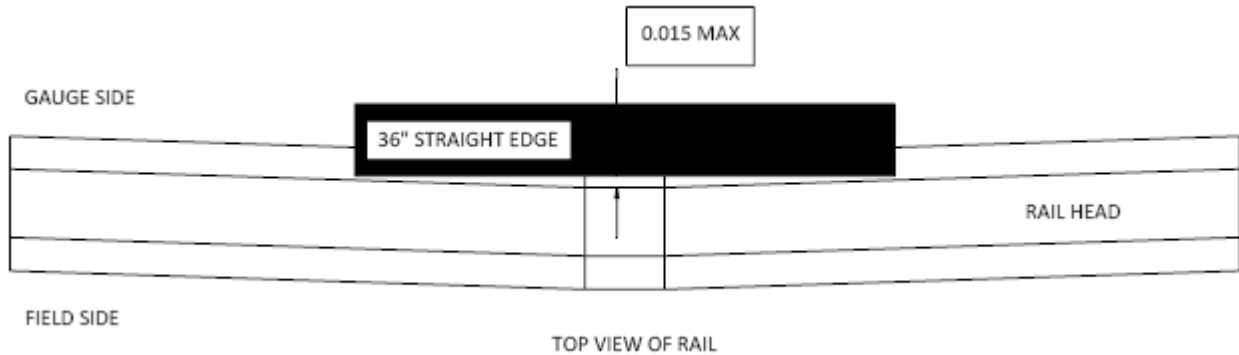

Fig. 30.6 - Horizontal Offset & Kink to Field
- c. Combined horizontal offset and kink should not exceed fifteen thousandths (0.015) of an inch on the gauge side when kinked to field. (Figure 30.6.)